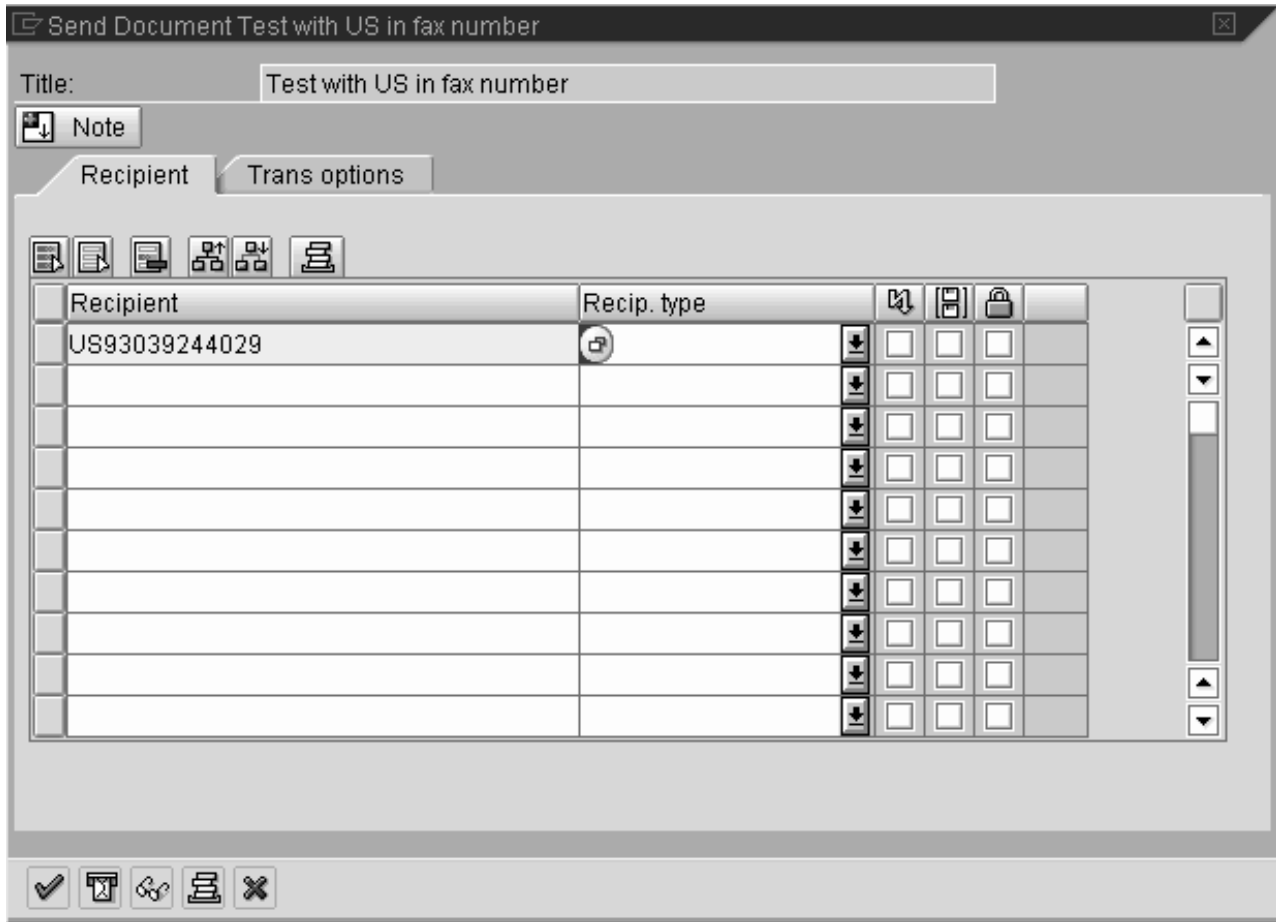

Figure 52. Send Document window
8. From the Send Document window (Figure 52 on page 123), you can specify a single recipient for a fax or create a distribution list to use to send the fax. Remember to start with the country code for each recipient. For example, specify us9303123456 and then select either the **Send** icon (envelope sticking out of a mail slot on far left) at the bottom of the window.